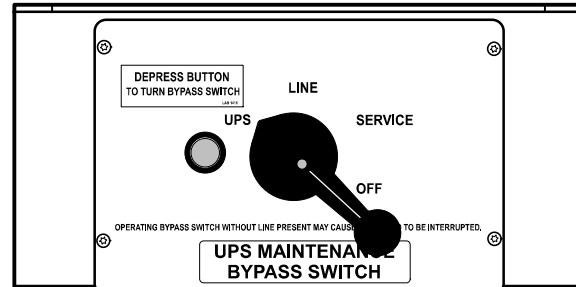

Figure 48. Wall-Mounted Maintenance Bypass Switch
1. Press the red button beside the maintenance bypass switch (see Figure 48 on page 73).